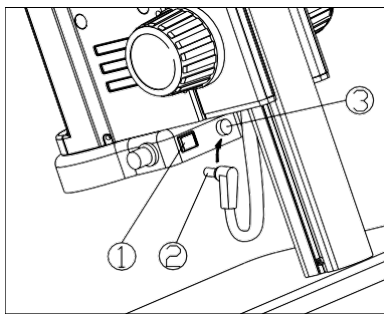

Fig. 5
- 1) Insert the power cord plug ② of body group into the ring light interface ③, then turn on the switch ① to start the light source. (See Fig. 5)